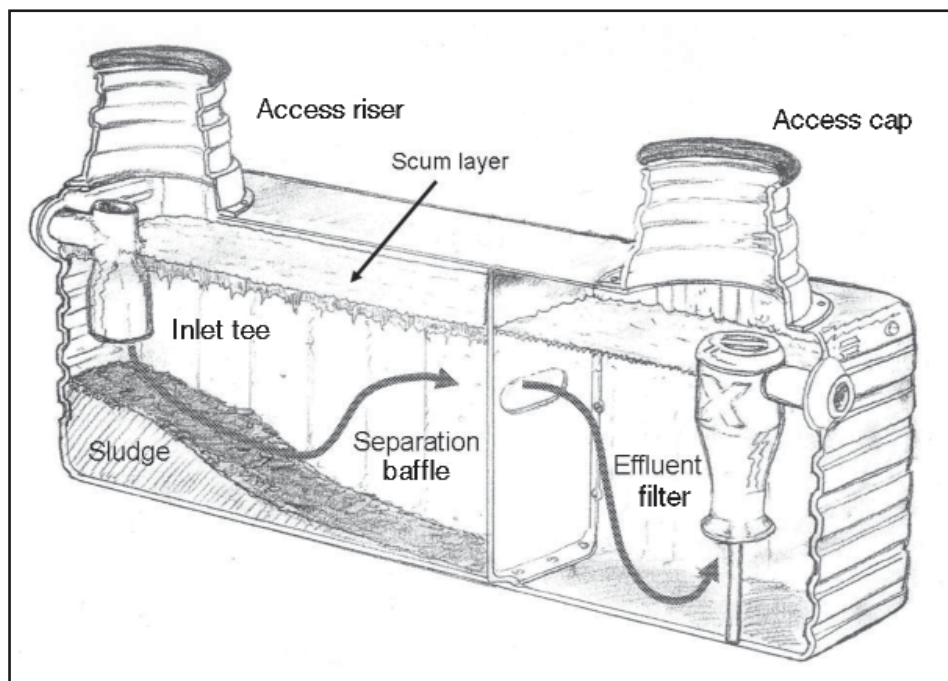

Figure 2: Common Septic Tank with Access Risers and Effluent Filter (Credit: Éric Brunet, Ontario Rural Wastewater Centre—University of Guelph)
As wastewater from the house enters the septic tank, its velocity slows allowing heavier solids to settle to the bottom and lighter materials to float to the surface (see Figure 2). The accumulation of settled solids at the bottom of the tank is called “sludge” while the lighter solids (greases and fats), which form a mass on the surface, is called “scum”. Anaerobic bacteria, which are always present in wastewater, digest some of the organic solids in the tank. Clarified wastewater in the middle of the tank flows by displacement into the leaching bed for further treatment in the soil layer.
**Access Risers** - Having easy access to the septic tank is the first step to routine maintenance. For tanks that are buried in the ground it is a very good idea to install access risers, which extend the tank lids to or near the surface (see Figure 2). Should there be a need to access the tank during the winter, risers will make the job much easier. Risers can be made of plastic or concrete and must be secured against entry.